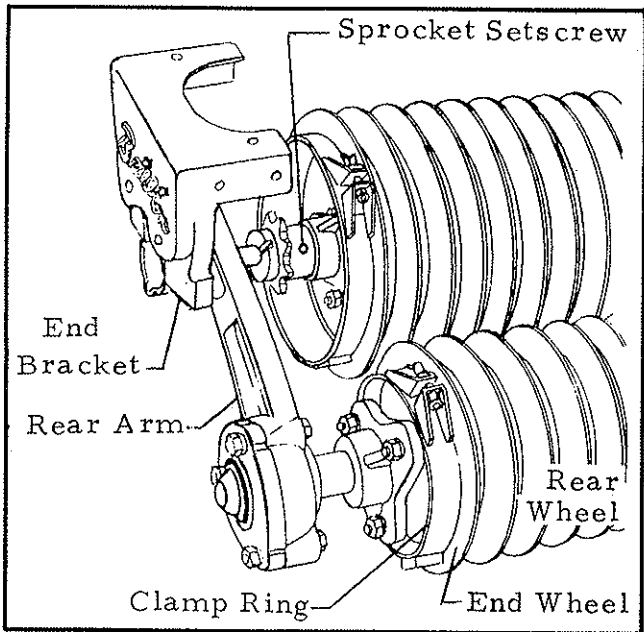

Figure 3
C. Assembling End Brackets See Figures 3, 4 and 5.